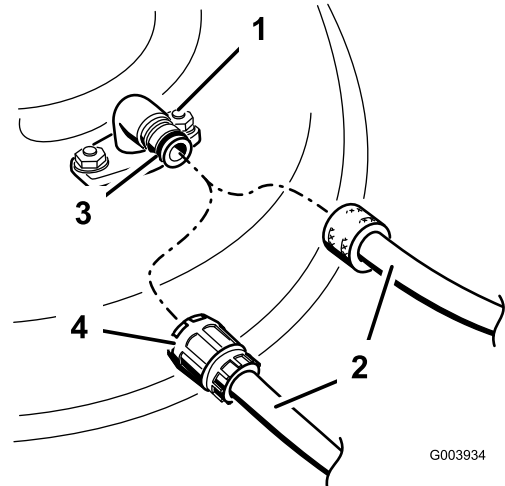

Figure 30
4. Attach a hose to the washout fitting, and turn the water on high (Figure 30).